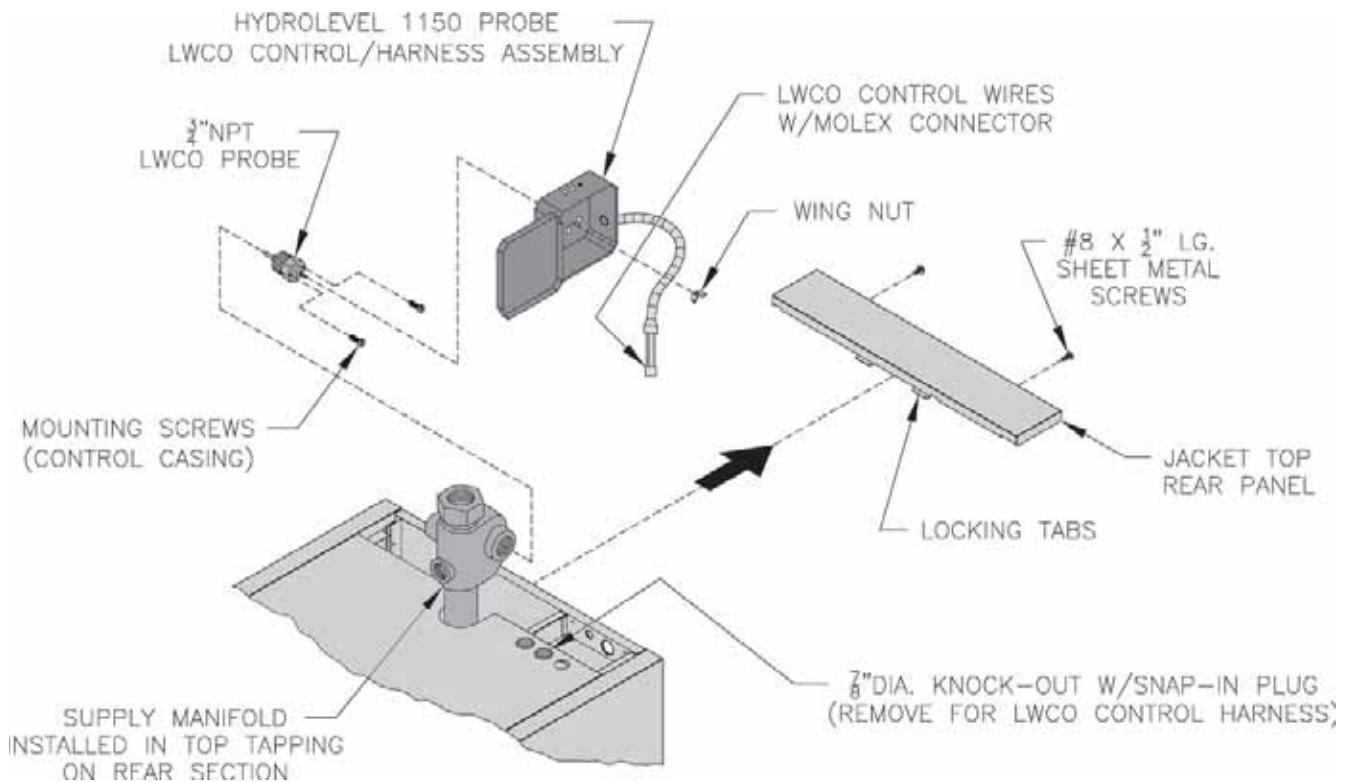

Figure 7: Optional Equipment - Low Water Cut-Off (LWCO) Control Assembly Details
2. If required on this water boiler application, install low water cut-off (LWCO) Kit, optional equipment - Burnham P/N 100106-01, refer to Figure 7. Also refer to instructions provided with LWCO Kit.